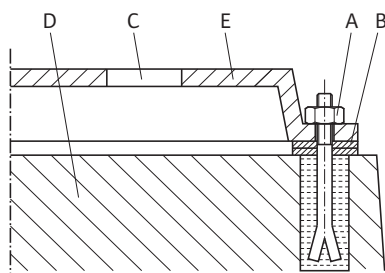

Fig. 43: Example of a foundation screwed connection
**Example of a foundation screwed connection (Fig. 43):**
- Always put the washers (B) to the left and right directly at the fixation material (e.g. stone bolts (A)) between the baseplate (E) and foundation (D).